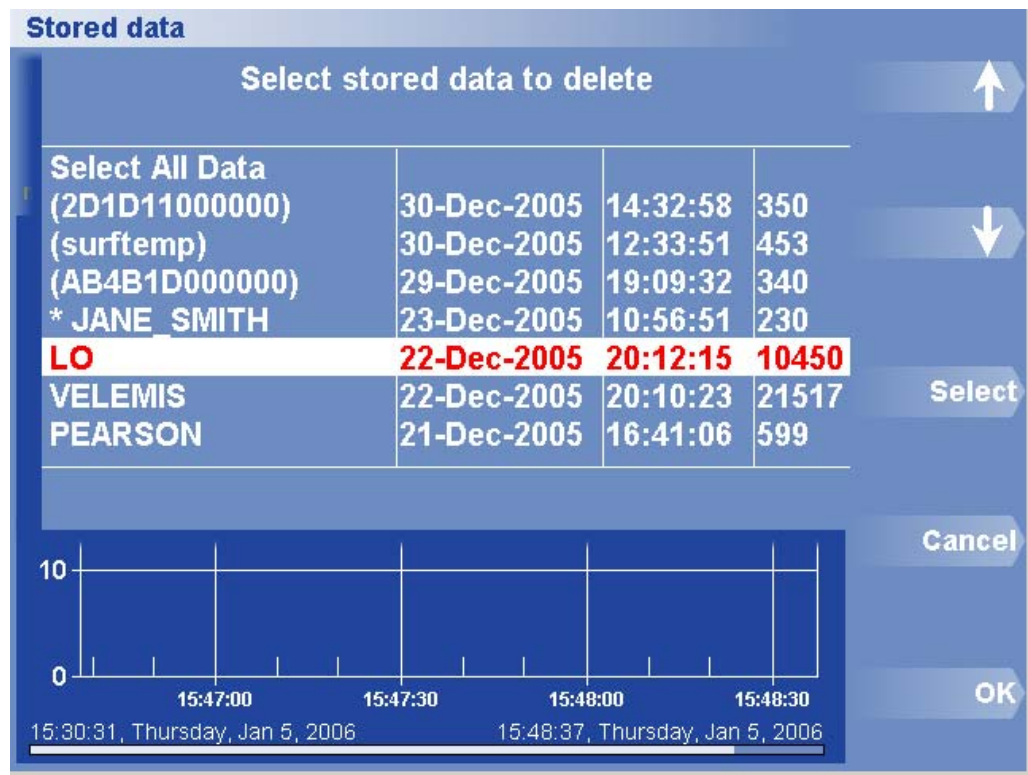

Figure 17. Delete Data Dialog Box and Menu
1. Press Stored Data > Delete Data. The Delete Stored Data list appears (Figure 17).